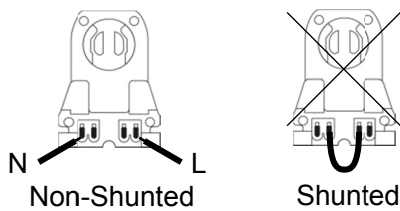

Figure 2
Step 5: Use G13 lamp holders Non-Shunted bi-pin as shown in Figure 2.